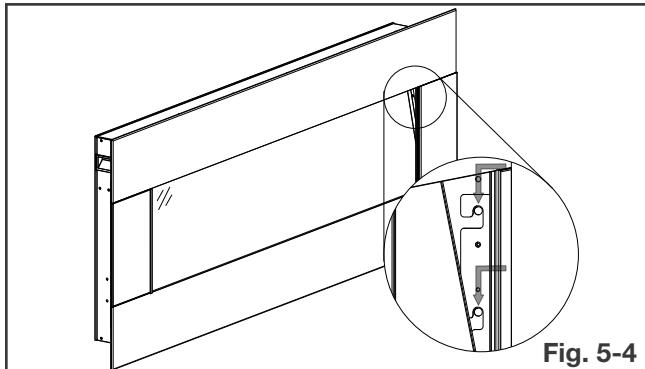

Fig. 5-4
- Lift the front surround onto the appliance (**Fig. 5-4**).